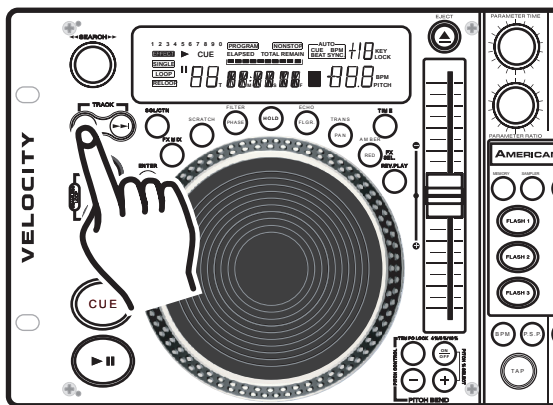
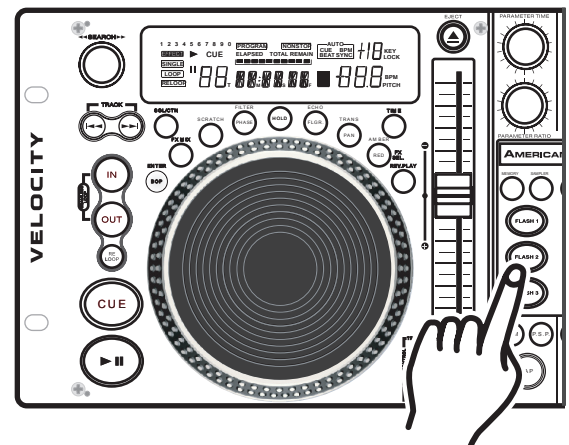

Figure 17
Figure 18
- Create a Cue Point by one of the two means listed on page 14. Press the *MEMORY BUTTON* (12), as in Figure 17. The red Memory Cue LED will glow indicating the store memory function has been activated. You may now press any one of the three *FLASH BUTTONS* (30) to store your cue point into memory (Figure 18). After pressing one of the *FLASH BUTTONS* (30), the corresponding Flash Button LED will flash briefly. The LED on the above the *FLASH BUTTON* (30) will remain lit indicating either a sample or cue point is stored in memory. The red Memory LED will turn off.